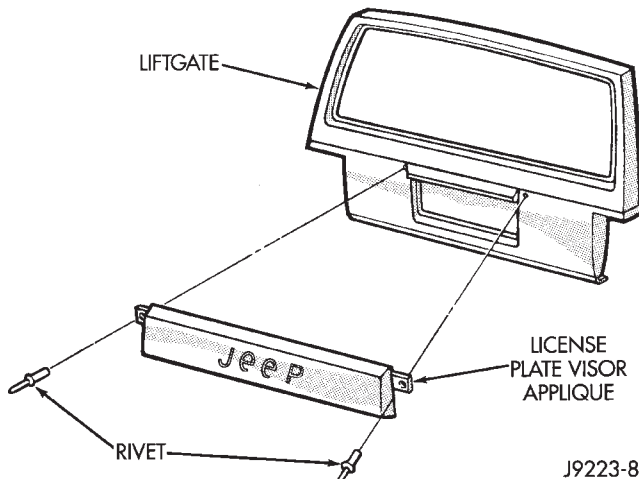

Fig. 62 License Plate Visor Applique
Ensure that the method of moulding attachment is known (Fig. 62) before attempting removal.
(2) Carefully pry the applique off the license plate visor and tailgate (Fig. 62).